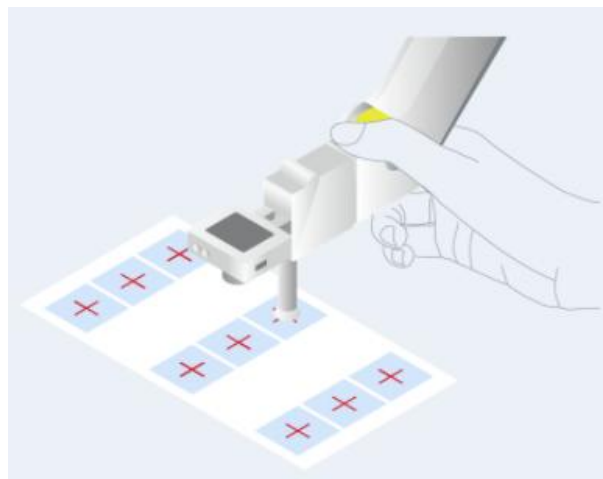

Figure 4.34 Align the suction cup center of Magician Lite with the cross center of QR code
**Step 4** Move Magician Lite using the **Control Panel** on the calibration page of the arm camera to align the suction cup center of Magician Lite with the cross center of No. 1 QR code on the calibration board, as shown in Figure 4.34.